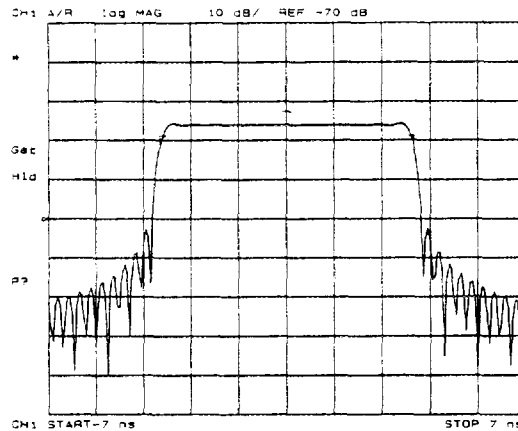

Figure 8-16. Gate Shape
**Setting the Gate.** Think of a gate as a bandpass filter in the time domain (Figure 8-16). When the gate is on, responses outside the gate are mathematically removed from the time domain trace. Enter the gate position as a start and stop time (not frequency) or as a center and span time. The start and stop times are the bandpass filter  $-6$  dB cutoff times. Gates can have a negative span, in which case, the responses *inside* the gate are mathematically removed.